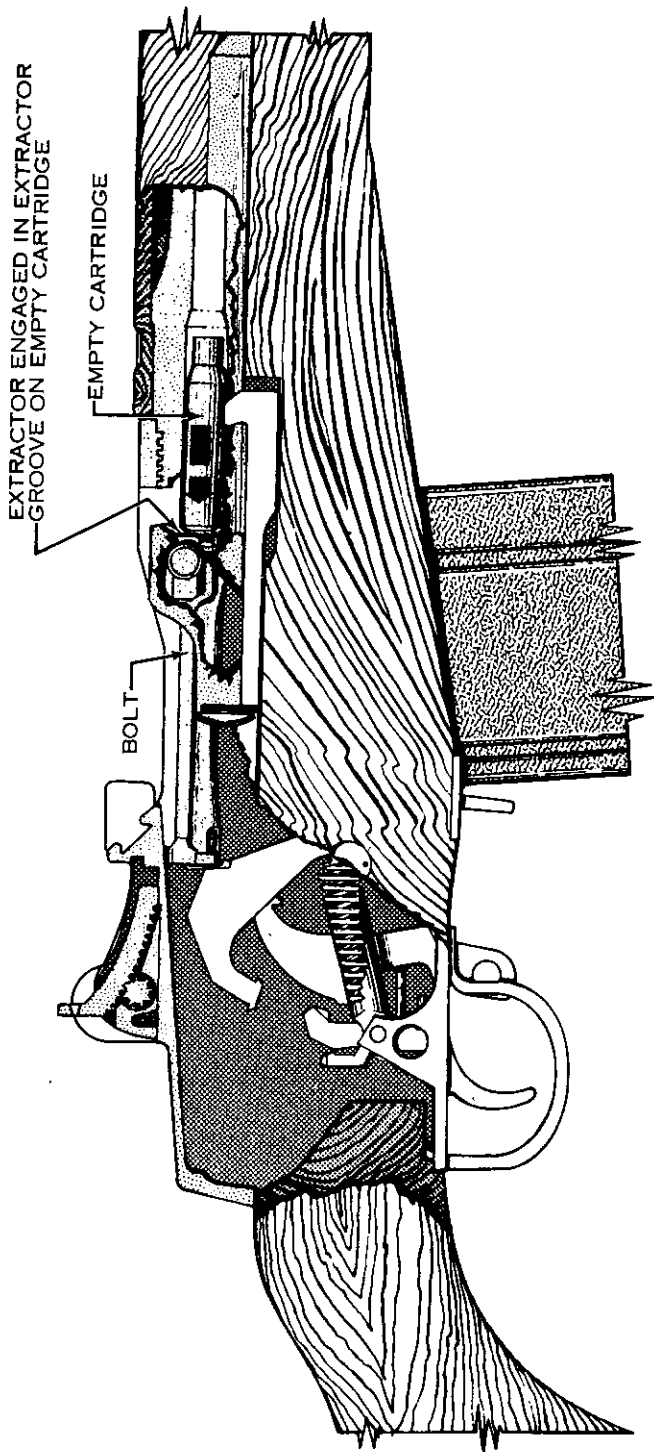

Figure 43. Extracting.
- (6) *Extracting.* Extracting is pulling the empty cartridge from the chamber. As the bolt unlocks, slow initial extraction takes place. When the bolt is moved to the rear, it pulls the empty cartridge with it (fig. 43).